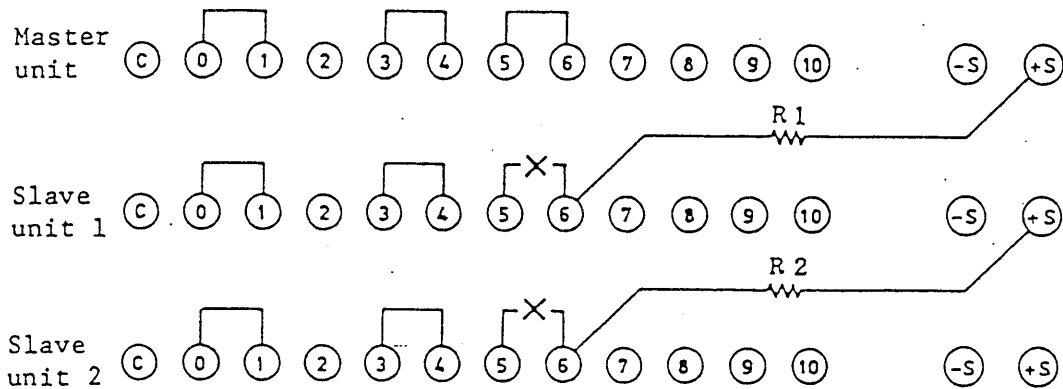

Figure 4-16. Rear terminal connections
2. Disconnect the jumper from between terminals ⑤ and ⑥ of each slave unit.
3. Connect external resistors as shown in Figure 4-16.